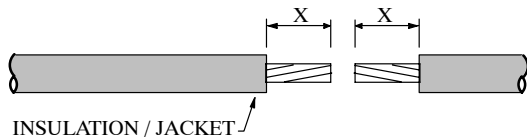

FIGURE 1
1. Remove the insulation/jacket as shown in Figure 1. "X" dimension is the insert depth of the connector being used.